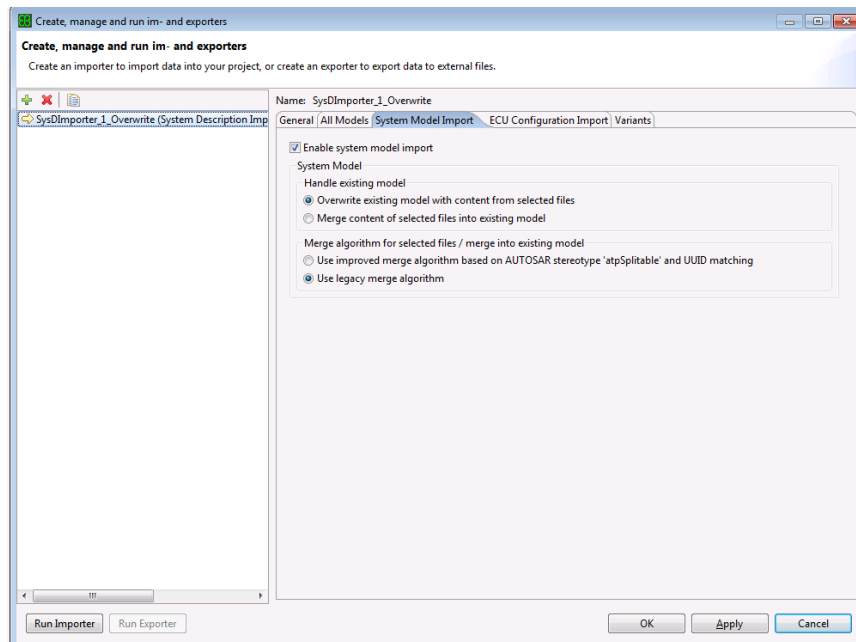

Figure 3.13. System Description Import - Step 3
- ▶ Import Step 3 (see Figure 3.13, “System Description Import - Step 3”):